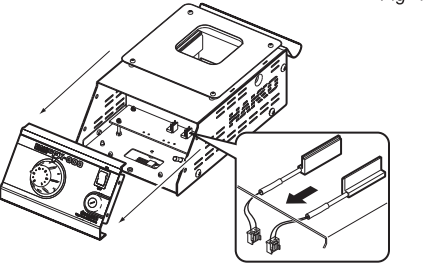

Fig. 5
- Slide the front panel frontward, disconnect the two connectors (Fig. 4) from the connector circuit board, and then pull out the units of the heating elements (Fig. 5).